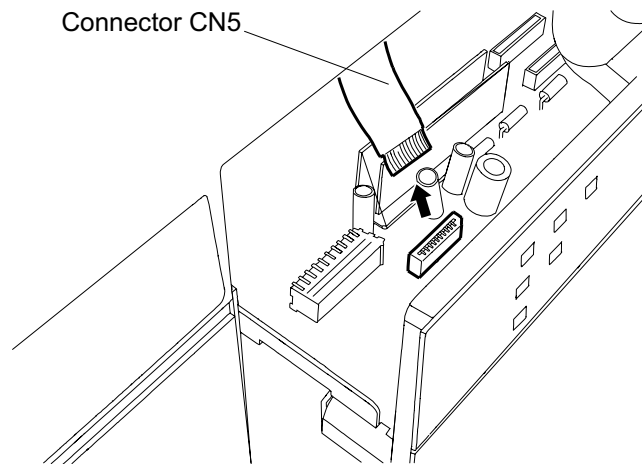

Figure 3-5 Connector for CN5 Removal
3. Disconnect the control panel FFC from CN5 on the C202 MAIN board assembly. (See Figure 3-5.)